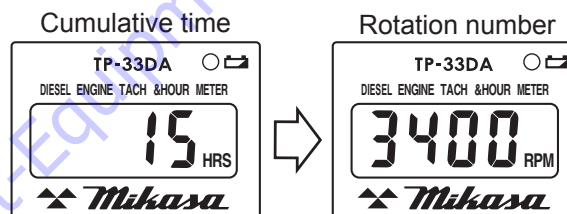

Figure 14. Hour Tachometer (Rotation Number)
6. When the engine is in operation, the Hour Tachometer display will show the "rotation number" (Figure 14).